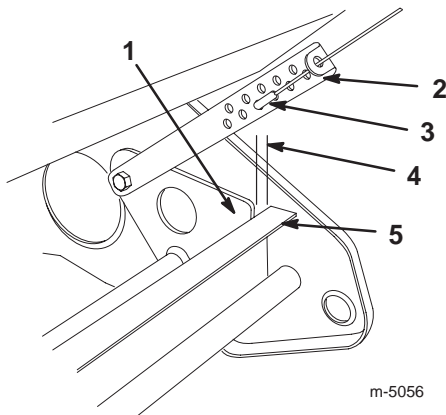

Figure 12
4. Ensure that the distance between the pivot plate and the wheel frame is 0 to 1/8 in. (0 to 3 mm) as shown in Figure 12.
Unhook the Z-fitting from the pivot cable adjuster (Fig. 12), and position the Z-fitting in a different hole on the pivot cable adjuster to obtain the proper gap between the pivot plate and the wheel frame.